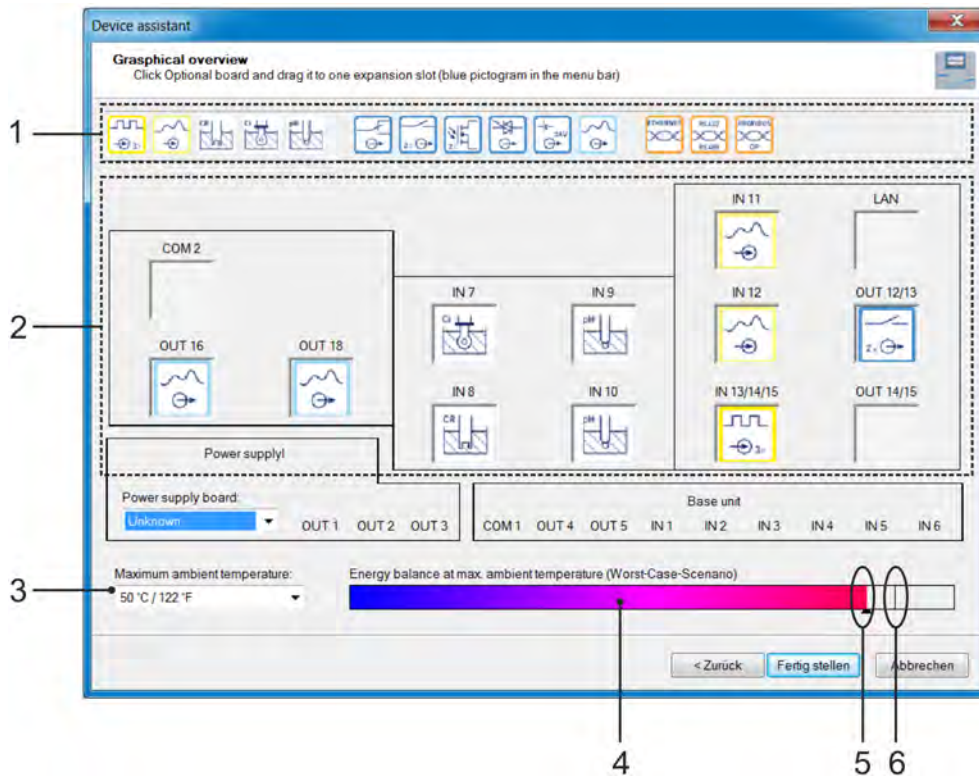

Fig. 99: Graphical monitoring
7. Here you can simply drag and drop the desired option boards (Fig. 99 , 1) symbolically into or from the corresponding slots (Fig. 99 , 2). To remove option boards from the slots, simply drag the board symbols out of their slots out and leave them outside the slots. In this case, for the bar graph "energy balance" (Fig. 99 , 4) the warming of the housing interior is expected. It takes into account the total heat output by the base and power supply unit and the option board and the influence of preset ambient temperature (Fig. 99 , 3). The small vertical bar in this display (Fig. 99 , 6) represents the limit that must not be exceeded. When the limit is exceeded, the colour of the pointer changes on the bar graph (Fig. 99 , 5) from black to red.